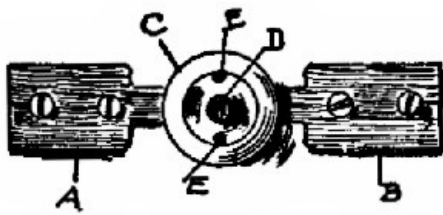
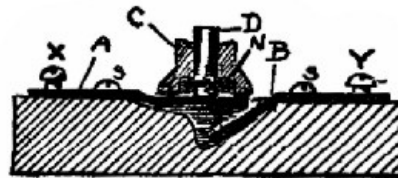
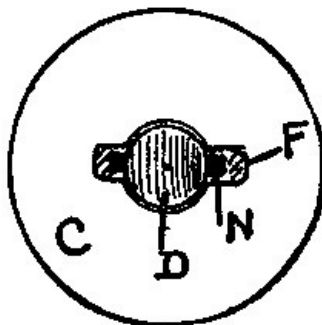

Fig. 17.
Fig. 18.
Fig. 19.
**47. Push-Button.** Figs. 17, 18, 19. Fig. 17 shows a top view or plan of the apparatus. Fig. 18 is a sectional view; that is, we suppose that the button has been cut into two parts along its length and through the center line. Fig. 19 is an enlarged detail drawing of the underside of the spool, *C*. The same part is marked by the same letter in all of the figures.
lower end. A slot, *F*, has been burned or cut into the underside of *C*, so that *N* can pass up and down in it when *D* is raised and lowered. The rod, *D*, rests upon *A*, one of the contacts. This is a straight piece of tin, cut as shown in Fig. 17, the narrow part being  $\frac{1}{4}$  in. wide and  $1\frac{1}{4}$  in. long. The wide part is  $\frac{3}{4}$  in. wide and 1 in. long. The other contact, *B*, is the same size as *A*. A deep groove, a little over  $\frac{1}{4}$  in. wide, is cut into the base so that the narrow part of *B* can be bent down below the end of *A*. The base shown is  $4 \times 2\frac{1}{2} \times \frac{7}{8}$  in. The spool, *C*, is fastened to the base by 2 screws or wire nails put up through the base, their positions being shown by the dots at *E*, Fig. 17. *X* and *Y*, Fig. 18, are 2 screw binding-posts. It is evident that the current cannot pass from *X* to *Y*, unless the button, *D*, be pressed down so that the end of *A* will touch *B*.